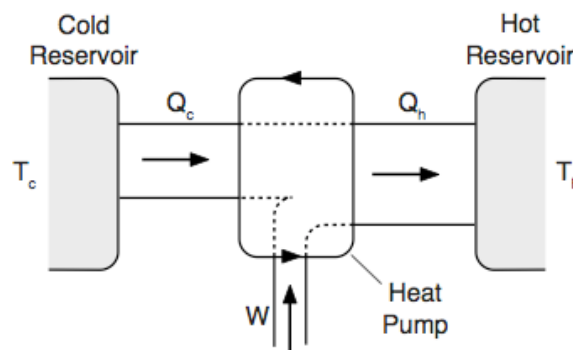
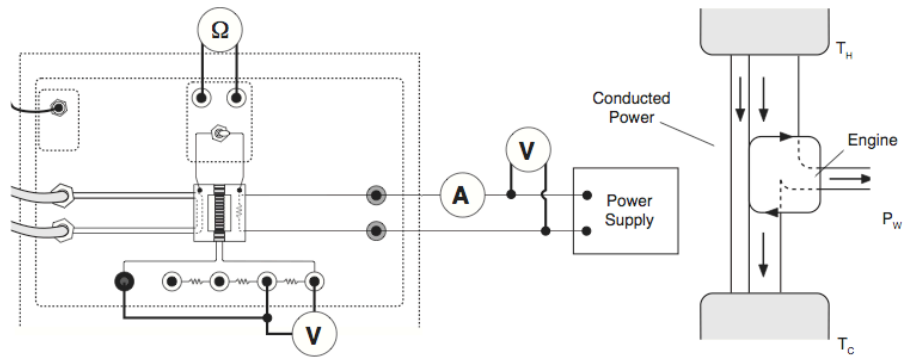
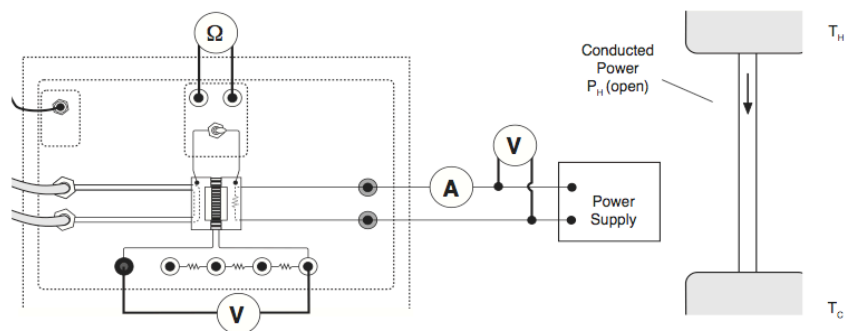

Figure 2: Heat Pump
Figure 4: Heat Engine with a load
Figure 6: No load
In the case of the Thermal Efficiency Apparatus, heat is pumped from the cold reservoir to the hot reservoir by running a current into the Peltier device in the direction opposite to the direction in which the Peltier device will produce a current. A heat pump is represented in a diagram such as Figure 2
Temperatures: The temperatures of the hot and cold reservoirs are determined by measuring the resistance of the thermistor imbedded in the hot or cold block. To do this, connect an ohmmeter to the terminals located as shown in Figure 4. The switch toggles between the hot side and the cold side. The thermistor reading can be converted to a temperature by using the chart located on the front of the Thermal Efficiency Apparatus. Notice that as the temperature increases, the thermistor resistance decreases (100 kΩ is a higher temperature than 200 kΩ). **NOTE:** To get the exact temperature reading you must interpolate between numbers on the chart.
device when an external load is applied. First run the Thermal Efficiency Apparatus with a load resistor (R) as in Figure 4.
Next, run the Thermal Efficiency Apparatus with no load, as in Figure 6.
The Thermal Efficiency Apparatus is run with a load connected to measure P_H (Figure 4) and then the load is disconnected and the power input into the hot reservoir is adjusted to maintain the temperatures (less power is needed when there is no load since less heat is being drawn from the hot reservoir). See Figure 6. $P_{H(\text{open})}$ is the power input to the hot reservoir when no load is present. Since, while there is no load, the hot reservoir is maintained at an equilibrium temperature, the heat put into the hot reservoir by the heating resistor must equal the heat radiated and conducted away from the hot reservoir. So measuring the heat input when there is no load determines the heat loss due to radiation and conduction. It is assumed this loss is the same when there is a load and the heat engine is operating.
Heat Pumped from the Cold Reservoir: When the Thermal Efficiency Apparatus is operated as a heat pump, conservation of energy yields that the rate at which heat is pumped from the cold reservoir, P_C , is equal to the rate at which heat is delivered to the hot reservoir, P_H , minus the rate at which work is being done, P_w (Figure 2). The work can be measured directly but the heat delivered to the hot reservoir has to be measured indirectly. Notice that when the heat pump is operating, the temperature of the hot reservoir remains constant. Therefore, the hot reservoir must be in equilibrium and the heat delivered to it must equal the heat being conducted and radiated away. So a measurement of the heat conducted and radiated away at a given temperature difference will also be a measurement of the heat delivered to the hot reservoir. The heat conducted and radiated is measured by running the device with no load and measuring the heat input needed to maintain the temperature of the hot side (Figure 6).
- Connect the 2Ω load resistor with a short patch cord as shown in Figure 4. Connect a voltmeter across the load resistor. The choice of the 2Ω load resistor is arbitrary. Any of the load resistances may be used.
- Disconnect the patch cord from the load resistor so no current is flowing through the load and thus no work is being done. Now all the power delivered to the heating resistor is either conducted to the cold side or radiated away. Leave the voltmeter attached so that the Seebeck voltage (V_s) can be measured. (see figure 6)
The Thermal Efficiency Apparatus is run with a load connected to measure P_H (Figure 4) and then the load is disconnected and the power input into the hot reservoir is adjusted to maintain the temperatures (less power is needed when there is no load since less heat is being drawn from the hot reservoir). See Figure 6. $P_H(\text{OPEN})$ is the power input to the hot reservoir when no load is present. Since, while there is no load, the hot reservoir is maintained at an equilibrium temperature, the heat put into the hot reservoir by the heating resistor must equal the heat radiated and conducted away from the hot reservoir. So measuring the heat input when there is no load determines the heat loss due to radiation and conduction. It is assumed this loss is the same when there is a load and the heat engine is operating.